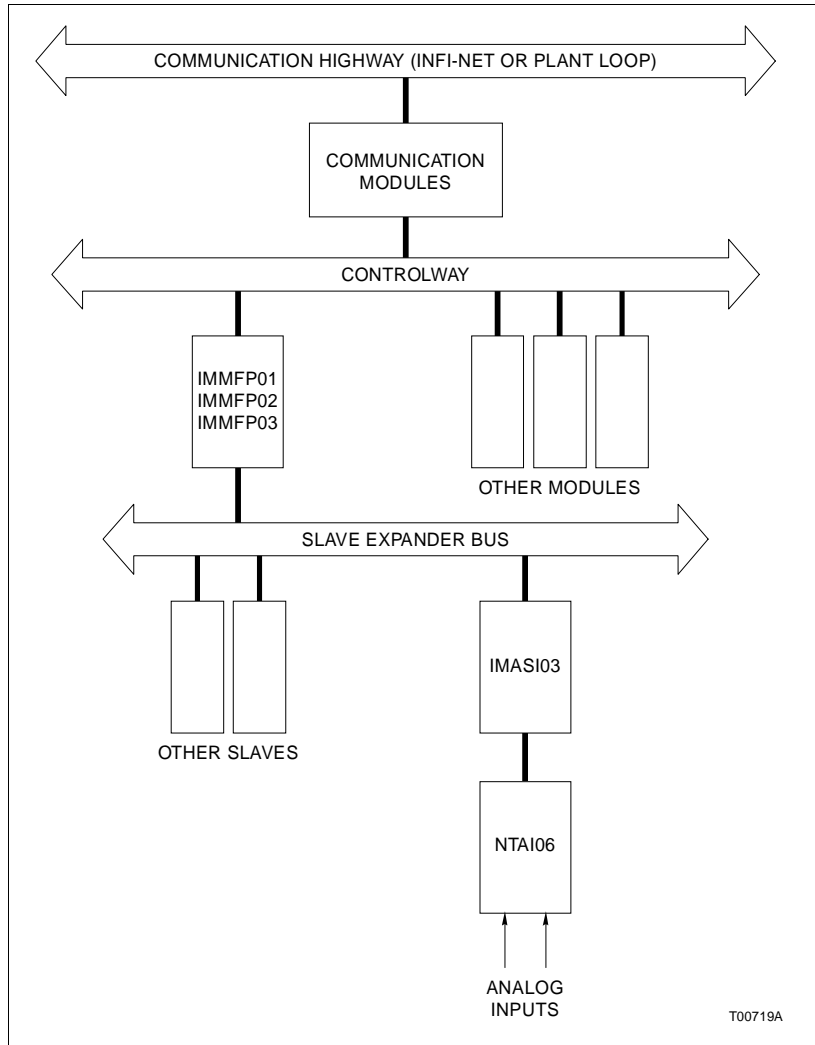

Figure 1-1. Application Example for NTAI06
The NTAIO6 is a single printed circuit board that mounts in a NFTP01 Field Termination Panel. The termination unit (TU) has two connectors P1 and P2. A single Y-shaped cable connects to P1 and P2 on the termination unit. The other end of the cable connects to the slave module. The terminal blocks for field wiring are on the TU. Jumpers on the NTAIO6 are set to match the type of input signal. Figure 1-1 shows an application example for the NTAIO6.